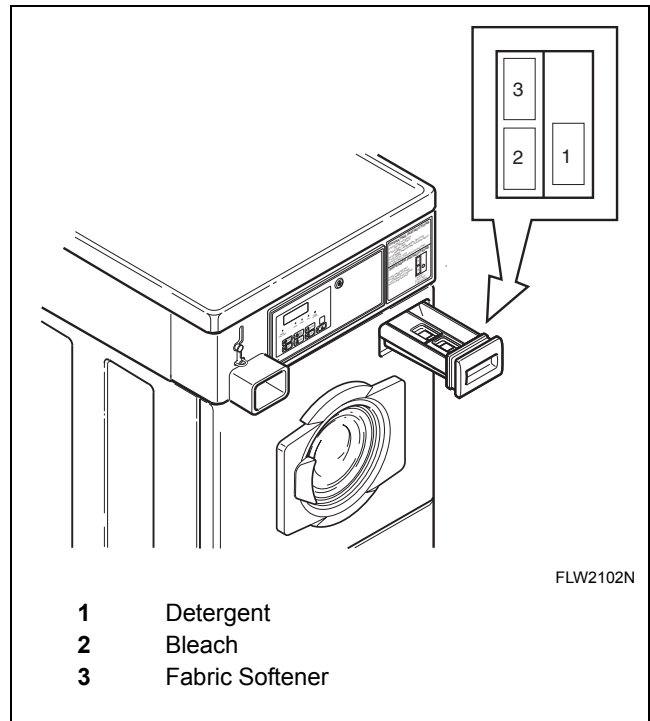

Figure 28
Open dispenser drawer. Measure and add low sudsing detergent (1), bleach (2) and fabric softener (3) to the dispenser drawer (refer to *Figure 28*). Close dispenser drawer.